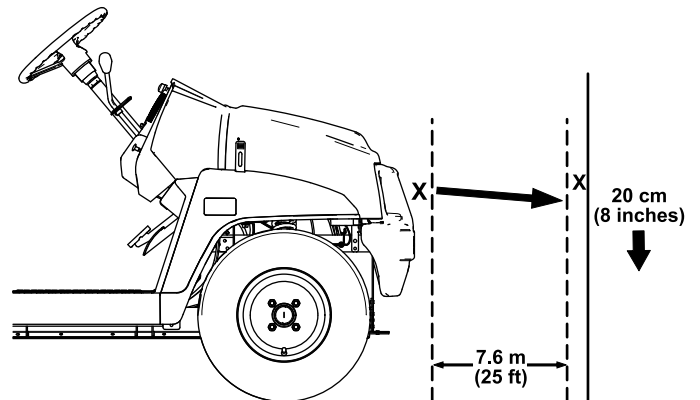

Figure 48
1. Park the machine on a level surface with the headlights approximately 7.6 m (25 ft) from a wall (Figure 48).
The brightest part of the headlight beam should be 20 cm (8 inches) below the mark placed on the wall (Figure 48).